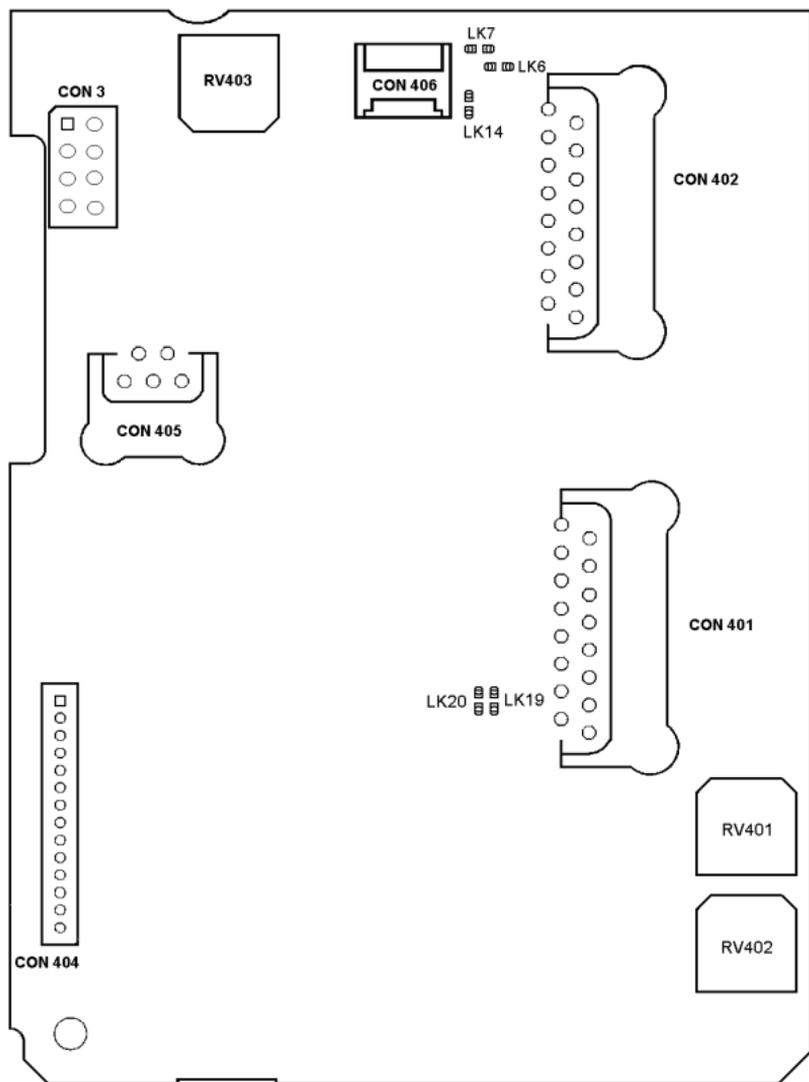

Figure 4 - Radio Printed Wiring Board Layout
6. Add solder jumper at LK6, LK14 and LK19 (see Figure 4).
7. Remove solder jumper at LK7 and LK20 (see Figure 4).